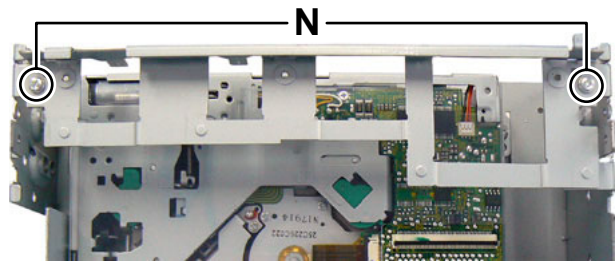

Fig.17
### 3.1.7 Removing the DVD mechanism (See Fig.17, 18)
- (1) Remove the two screws **N** attaching the Front board bracket. (See Fig.17)